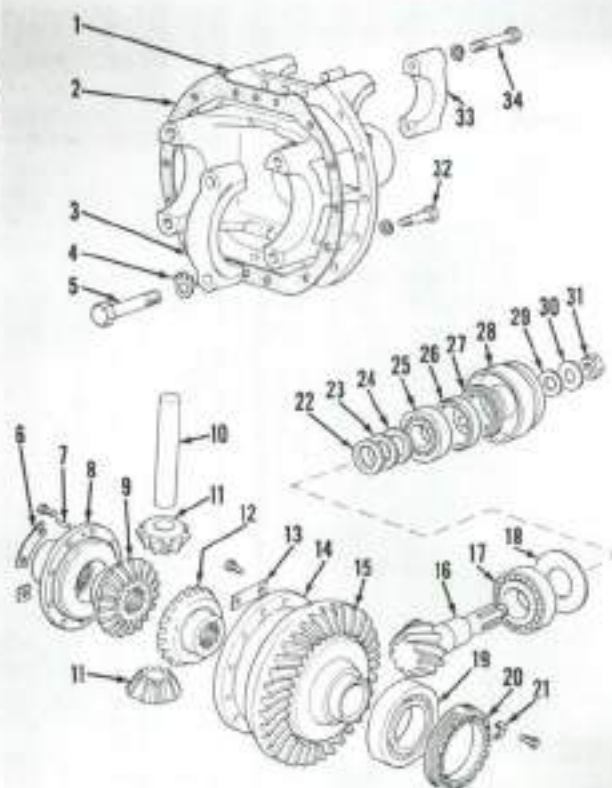

Fig. 11—Exploded view of David Brown differential assembly showing component parts and their relative positions.
Remove pinion shaft locknut (31—Fig. 11), then drive pinion shaft through flange (28) and carrier (1). Front spacer (22), shims (23) and rear spacer (24) should remain on pinion shaft as it is removed. Remove remaining bearing cups and shims from carrier (1) as necessary. Inspect bearings and spacers on pinion shaft and renew as necessary.
Assemble pinion shaft in carrier minus shims (18—Fig. 11), oil seal (27), spacer (26), sealing washer (29), front spacer (22), shims (23) or rear spacer (24). Install flange (28), retaining washer (30), and locknut (31) on pinion shaft (16) and tighten locknut until all end play of pinion shaft is just removed, then tighten locknut just a small amount more to slightly preload bearings. Install special tool in carrier bearing bores as shown in Fig. 12. Install shaft (CAS-1236-6), probe and spacer (CAS-1609) and locknut (CAS-1234-4) of special tool so probe point lightly contacts face of pinion shaft gear. Tighten locknut to lock probe in this position. Using a feeler gage, measure and record amount of gap between spacer and probe. See Fig. 13.